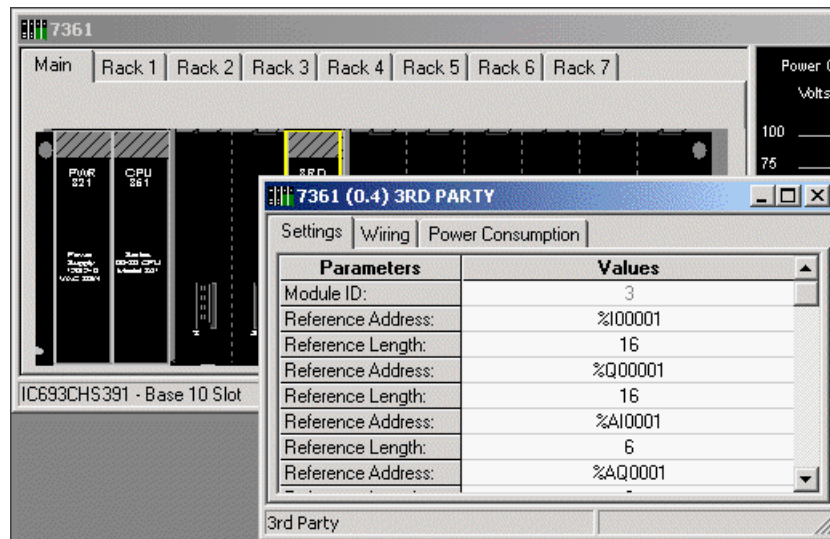

Figure 7.1 VersaPro Configuration Screen
- 4) Select "3rd Party" and then click on OK. A window similar to figure 7.1 will appear.